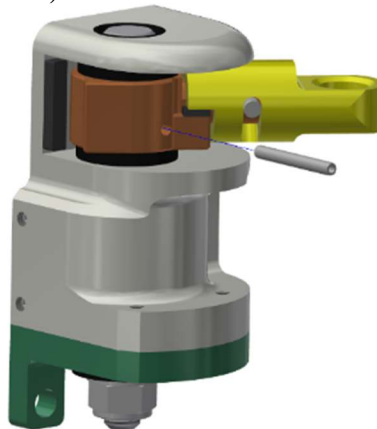

Figure 7-14. Install the Roll Pin to the Scapula Link Clevis (474-3507-1,2)
- 7.3.4 Install the M3 X 24 LG. Roll Pin to the Scapula Link Clevis (474-3507-1,2) (Figure 7-14).